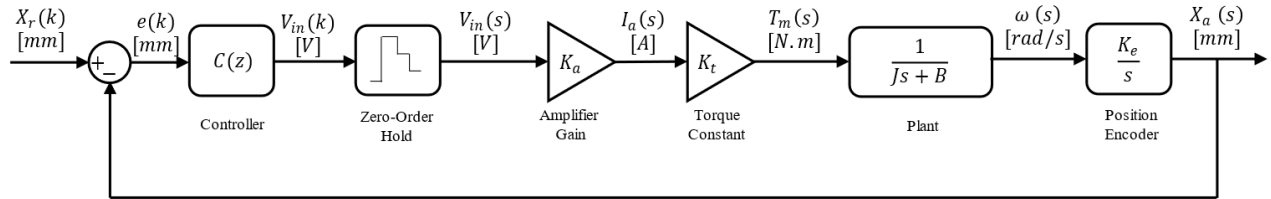

Fig. 2. Closed-loop block diagram of ball screw feed drive table
2. Close the system with a unity feedback as shown in Fig. 2. Design the simplest controller possible to achieve a gain cross-over frequency ω_g of 100 rad/s. Plot the old and new open-loop Bode diagram on top of each other.
3. For the closed-loop system shown in Fig. 2, design a controller to achieve a phase margin of 60° at a frequency of $\omega_c = 300$ rad/s. Plot the Bode diagram and show the demanded values are achieved.